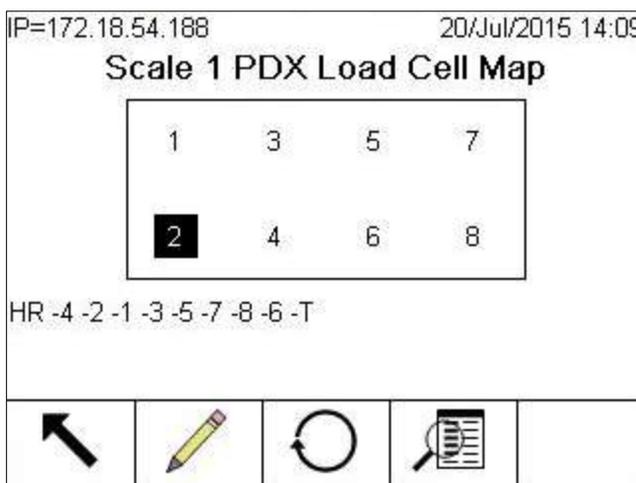

Figure 3-170: Completed PDX Load Cell Map
Pressing the **List View**  softkey in the **PDX Load Cell Map** screen displays a table view of the load cell network information. The table shows data for each cell from the home-run cable to termination, as entered on the **Node Edit** screens (and displayed in the load cell map, Figure 3-170).
- Press the OK softkey to confirm. For this simple single-platform layout, the map (and the load cell sequence at the foot of the screen) will now resemble the one shown in Figure 3-170.